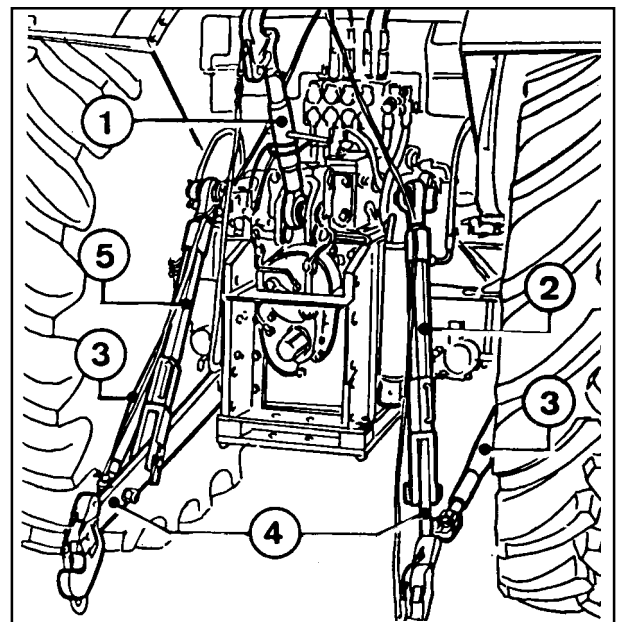
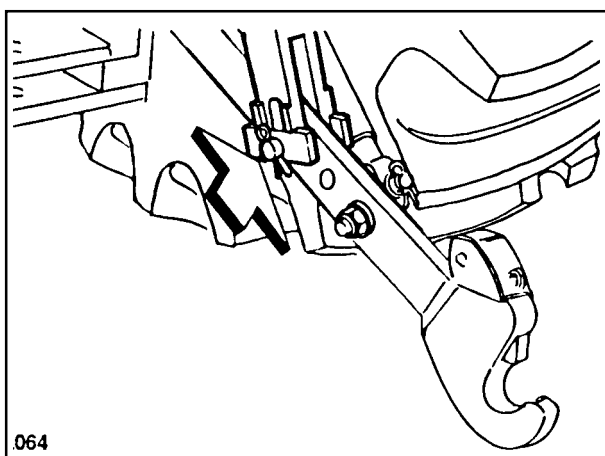
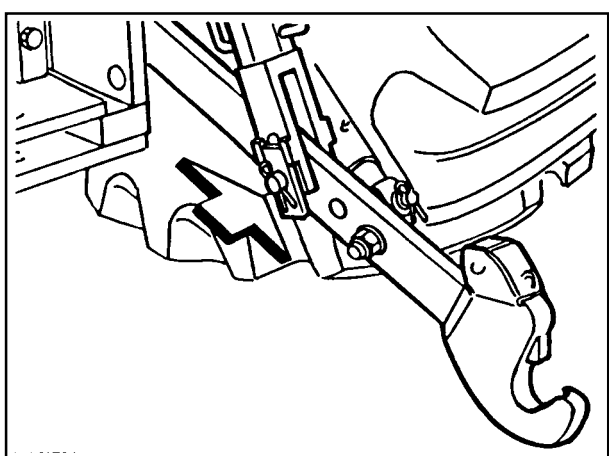

Fig. 4-65
Fig. 4-68
Fig. 4-69
The articulated device with three point suspension mainly consists of the following components (Fig. 4-65):
The adjustable top link (1 - Fig. 4-65) is connected to the support by two holes. The correct hole to use depends on the height of the implement.
The right-hand lift rod (2 - Fig. 4-65) can be adjusted in length by means of a lever (2). This adjustment is very useful since it allows the implement to be levelled according to the job in hand.
The right and left vertical lift rods (2 and 5 - Fig. 4-65) can be regulated by means of an adjustment crank in order to alter the lateral angle of the implements. They can also be adjusted by turning the backing plate through 90°: this gives two settings, one with the plate fixed (Fig. 4-68), the other with the plate free to slide (Fig. 4-69). This latter position must be used for implements that require a certain freedom of sideways movement (cultivators, spaders, harrows).
The lower links (4 - Fig. 4-65) transmit tractive force and support the implement.
The side stabilizers (3 - Fig. 4-65) can be set to reduce the lateral movement of the lower links of the three point linkage.
To adjust the stabilizers (3 - Fig. 4-65):